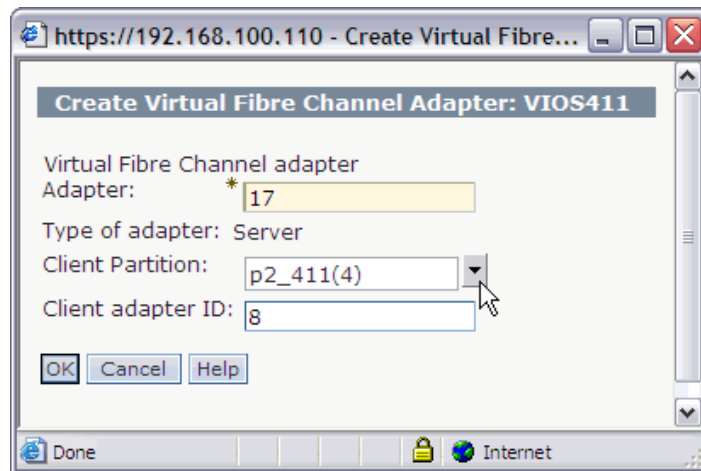

Figure 5-14 Create Virtual Fibre Channel Adapter panel
- a. Enter the required slot numbers into the Create Virtual Fibre Channel Adapter panel, as in Figure 5-14.
On the page shown in Figure 5-14 it is also possible to select the client partition, p2_411. Click **OK** once the slot number is entered that was recorded in step 10 on page 120.